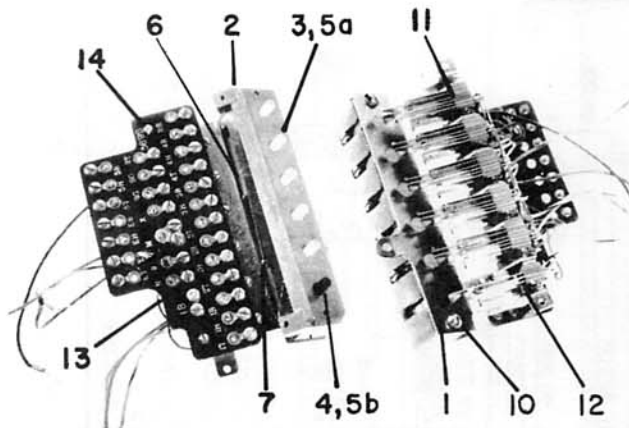

Fig. 2-1 TYPICAL KEY SWITCH
2.1 The various parts of a typical key switch assembly are identified in Fig. 2-1.